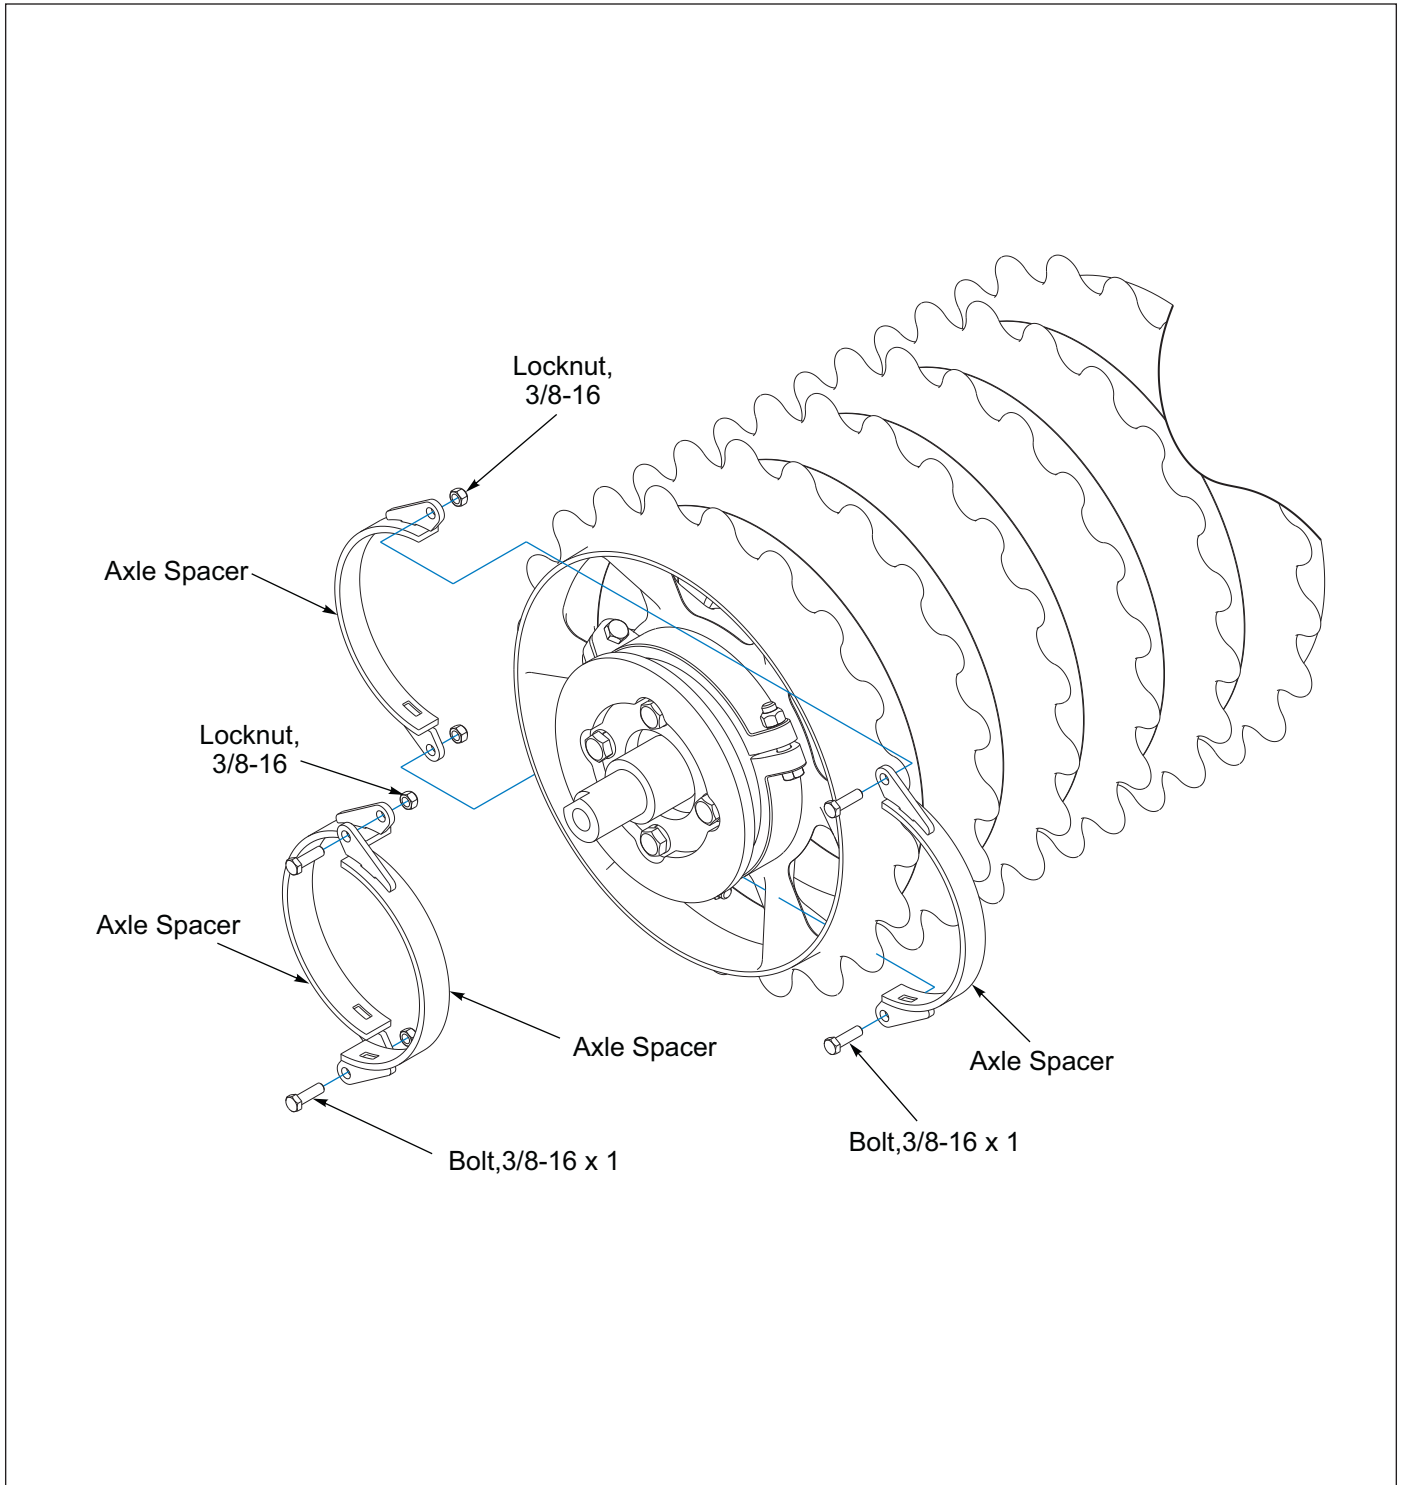

Figure 4-10: Clamp End Spacer Kits, 1", 1-1/4", 1-1/2" - Optional
1. Place the two Axle Spacers between the Axle Clamp and the Wheel Stop. **See Figure 4-10.**